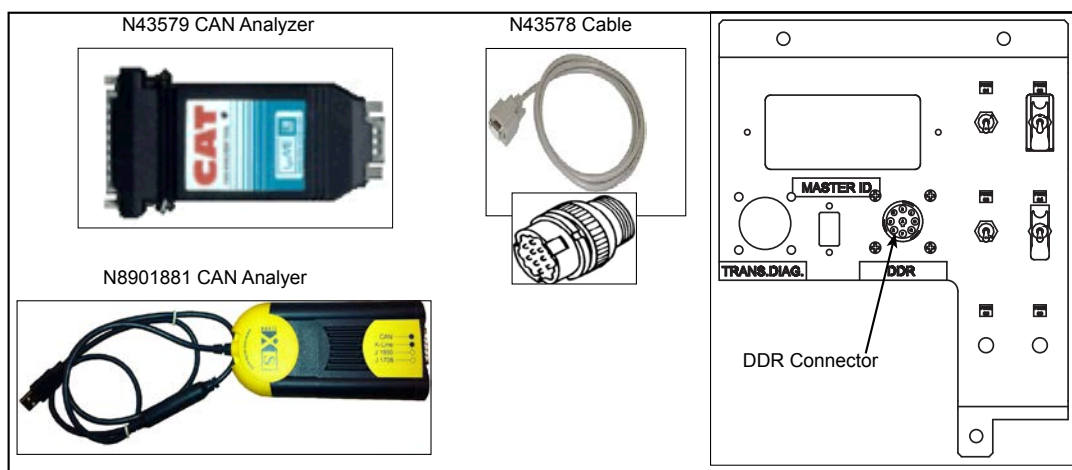

Figure 1 - CAN Analyser, Cable and Location of DDR Connector
This procedure requires the CAT CAN Analyzer programming and diagnostic tool. Contact Prevost Parts or your after-sales representative to order N43578 (Cable) and N43579 (RS232 connector CAN Analyzer) or N8901881 (CAN Analyzer with USB cable). See Figure 1.
- 1.1. Connect the **CAN** analyzer to a computer equipped with the **NOVA BUS SETUP PROGRAM** software (see Figure 1).
- 1.2. Open the left overhead console panel and connect the **CAN** Analyzer cable to the **DDR** connector(see Figure 1).